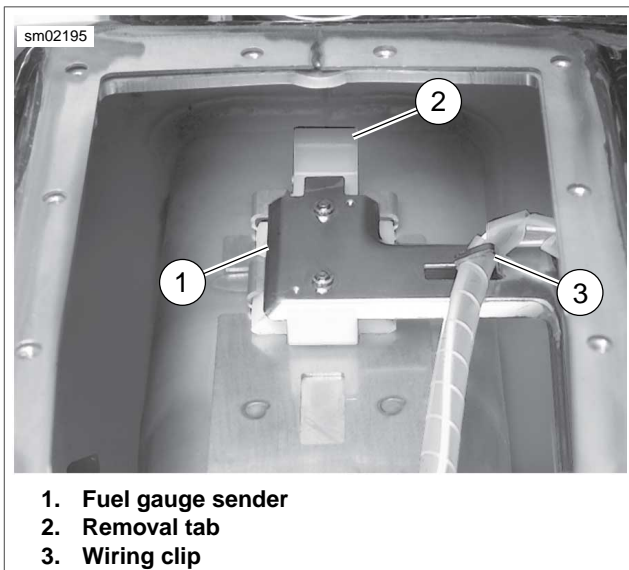

Figure 8-46. Fuel Gauge Sender
11. See Figure 8-46. Pull removal tab (2) towards rear of vehicle to disengage sender (1) from mounting tabs.